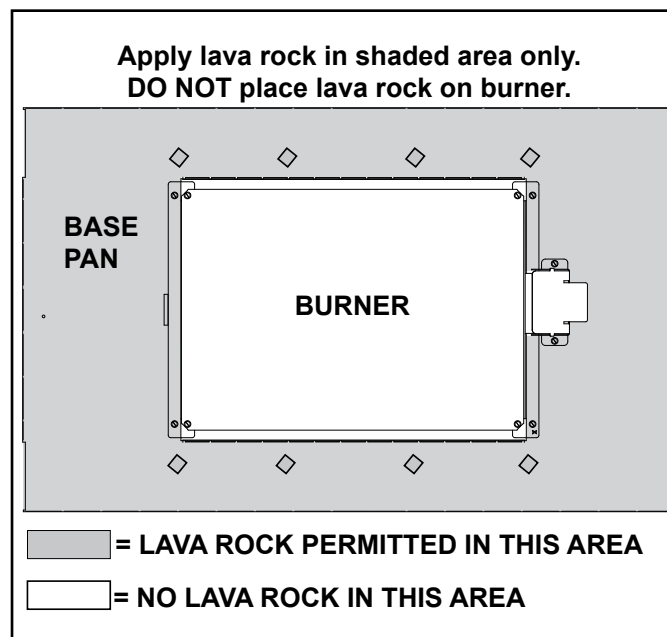

Figure 11.14 Placement of Lava Rock
- Place Lava Rock on areas of base pan away from the burner as shown in Figure 11.14. Do not place lava rock on burner. Use this material to give the appliance a realistic ash bed.